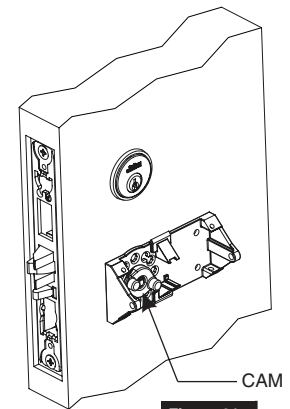

Figure 21
9. Rotate cam by hand to make sure trim is not binding - latch must project freely when cam is released. If trim binds loosen mounting screws and re-align trim. (Figure 21)